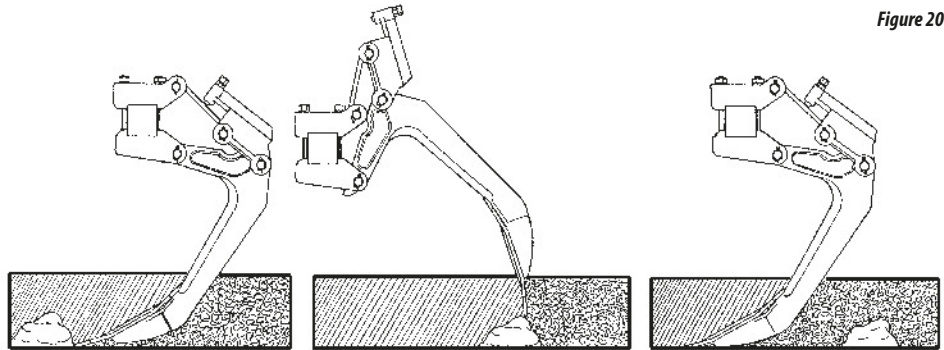

Figure 20
- 13 - The roll is provided with pressure spring (1) which automatically adjusts itself in accordance with the depth adjustment.
- 17 - The tynes are equipped with an exclusive system of automatic disarm when they meet obstacles, return to normal working position by simply lifting the implement as Figure 20.